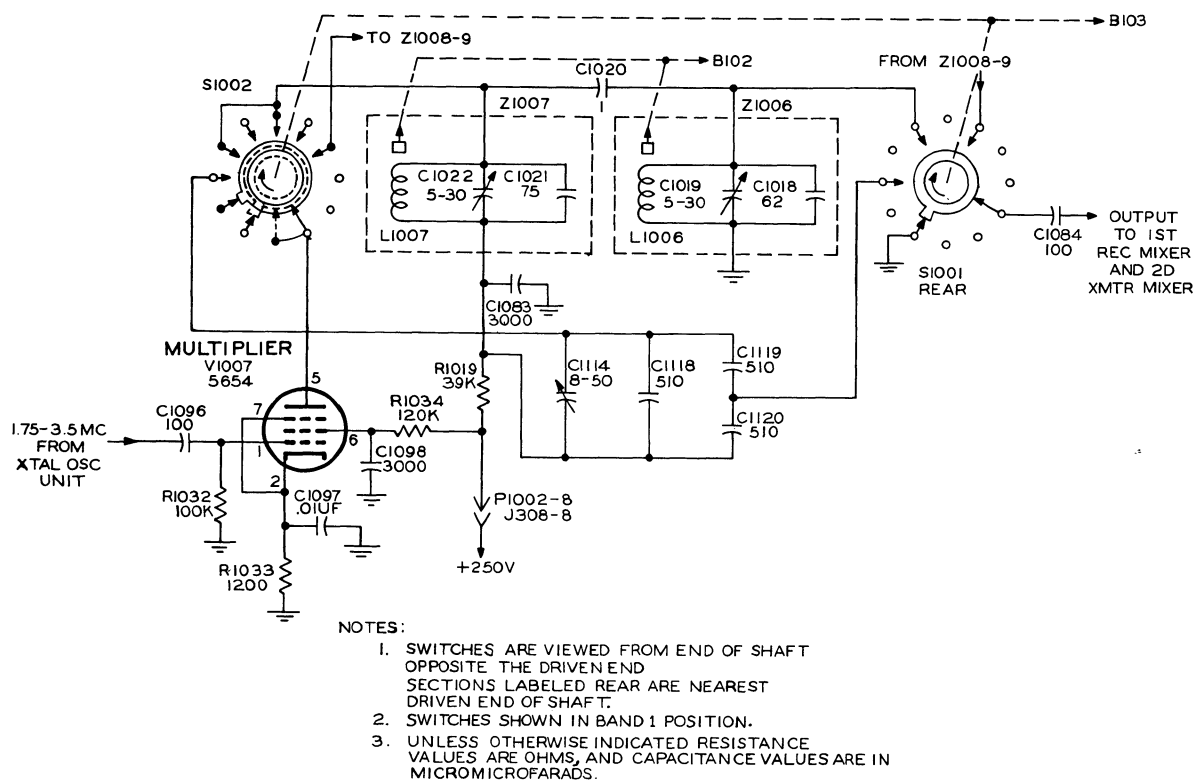

Figure 4-18. Tuner Unit, Multiplier, Simplified Schematic Diagram
4.9.3.3 MULTIPLIER STAGE. Refer to figure 4-18. Multiplier stage V1007 is common to both the transmitter and receiver circuits. Input to V1007 is coupled from the output of the r-f crystal oscillator through C1096 to the control grid of V1007. The multiplier is not used on band 1, and contacts on switch S1002 open the plate circuit on this band. On bands 2 and 3, the plate circuit is completed through contacts of S1002 and consists of impedance Z1007 in series with voltage-dropping resistor R1019. In the band 2 position, an additional capacitor network is connected across Z1007 to load the impedance (Z1007) to give the proper frequency range. This capacitor network, consisting of C1114, C1118, C1119, and C1120, is removed from the circuit by contacts of S1002 when band 3 is in use. Output developed across Z1007 is capacity coupled through C1020 to Z1006, which is connected to the injection grid circuits of the second transmitter mixer (V1003) and first receiver mixer (V1005) through S1001 and C1084. In band 4 position, impedances Z1009 and Z1008 are substituted for Z1007 and Z1006.